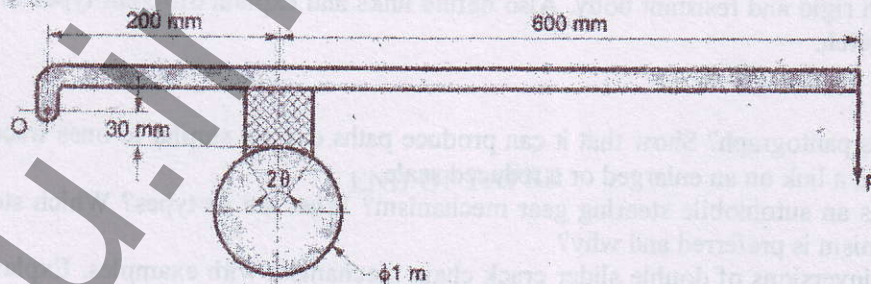

Fig. 2
- (A) What is dynamometer? How they are classified? [2]
- (B) Explain working of belt transmission dynamometer with neat sketch. [4]
- (C) A single block brake as shown in fig. 2 has a brake drum diameter of 1 m and the angle of contact is  $30^\circ$ . It takes 280 Nm torque at 300 rpm. The coefficient of friction is 0.35. determine the required force P to be applied when the rotation of drum is